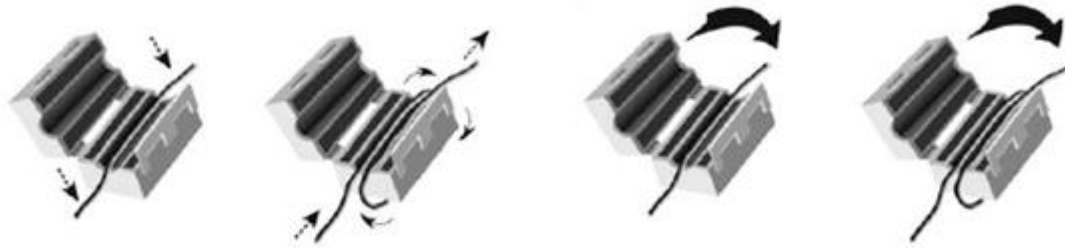

FIG 27 – FERRITE BEAD INSTALLATION FOR COMMUNICATION CABLE
2. Place the cable part that is closest to the UPS connector inside the ferrite bead. For SNMP communication twist it once around the ferrite and place the second winding also inside the ferrite bead (see FIG 27).